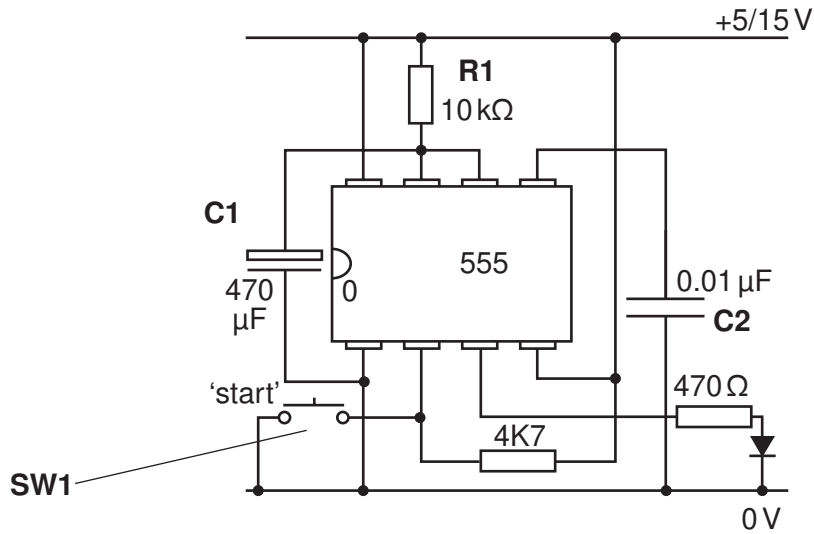

Fig. 10
- 3 (a) A light is to be used to warn people of protruding scaffolding. Fig. 10 shows a circuit for this purpose.
- (i) Add numbers to Fig. 10 to show the order of the pins on the 555 IC. [2]